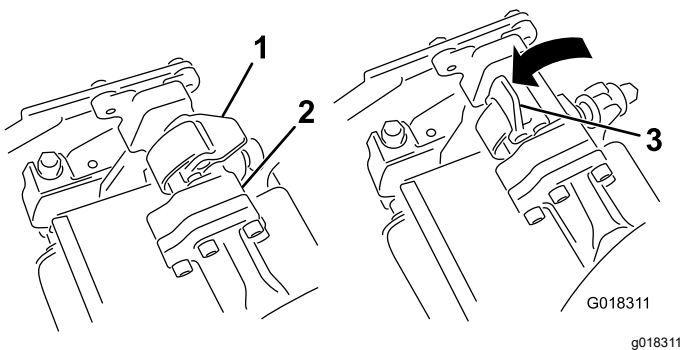
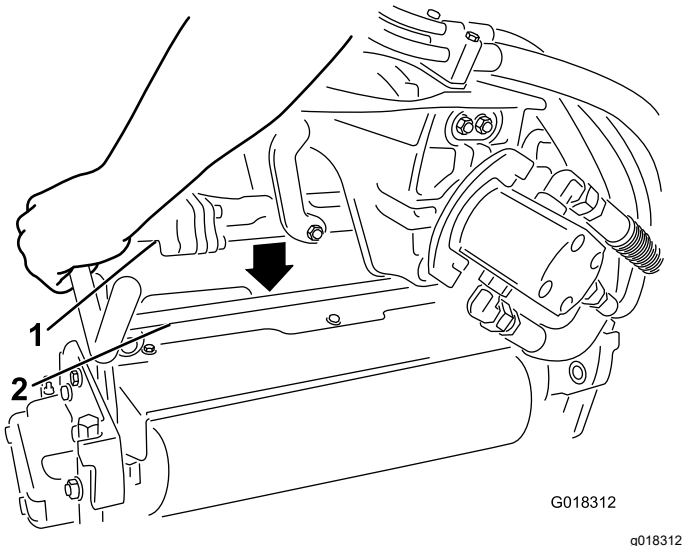

Figure 3
Figure 4
2. With the latches on the suspension-arm bar opened (Figure 3), push the suspension arm down so that it fits over the bar across the top of the spiker unit (Figure 4).
3. Close the latches to lock the spiker unit in place (Figure 3)